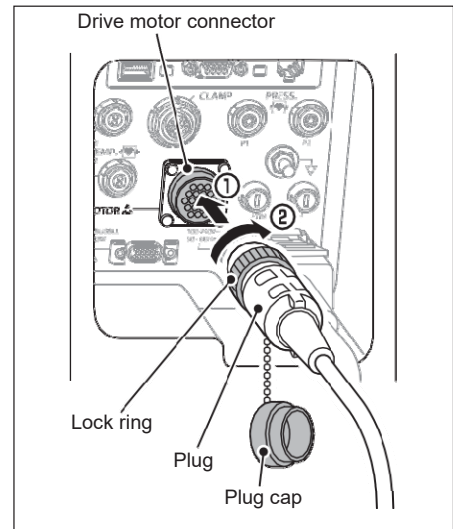

Figure 1-12
3. **Remove the plug cap of the Drive Motor. Insert the plug into the drive motor connector on the rear panel. (Figure 1-12 a) Then, turn the lock ring clockwise until you hear a click. (Figure 1-12 b)**